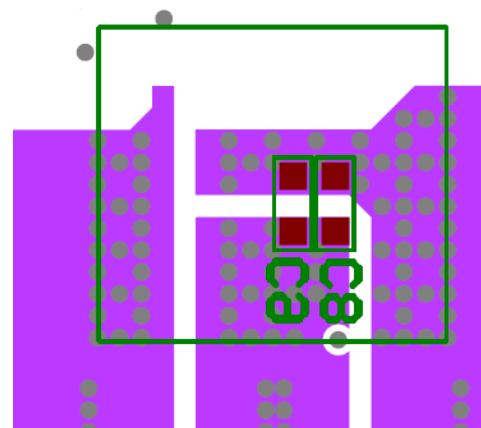

FIG.30 BOTTOM LAYER
- 5、 MLCC input decoupling capacitors C8 and C9 (1uF and 100pF) are required to be placed on the bottom side of the PCB connecting pin VIN and pin PGND (refer to Fig. 30)